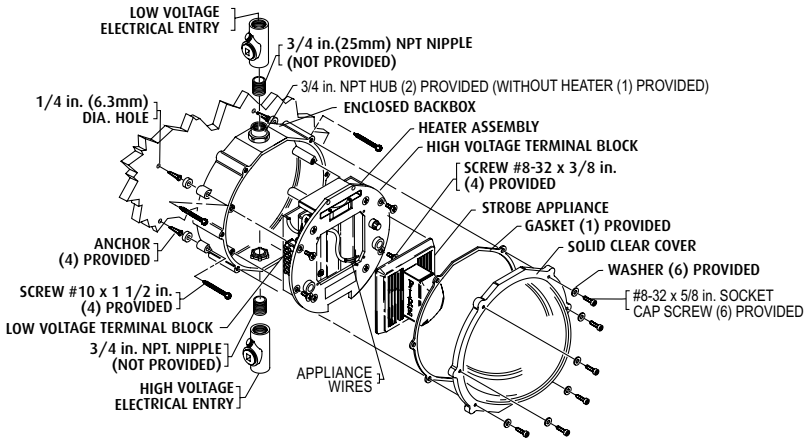

FIGURE 1
Mount Enclosure back box - Refer to Fig. 1
2. Mount back box in desired location (wall mount only) using the four #10 x 1-1/2" screws and anchors (provided). Drill a 1/4" diameter pilot hole for plastic anchors at spacing in Fig. 1.
10. Attach heater assembly to back box using (4) #8-32 x 3/8" flat head screws into heater assembly mounting bosses on back box (see Fig. 1). Make sure all service wiring is gathered away from the heater and be careful not to pinch wire under heater assembly. Fan must be mounted toward top of enclosure.